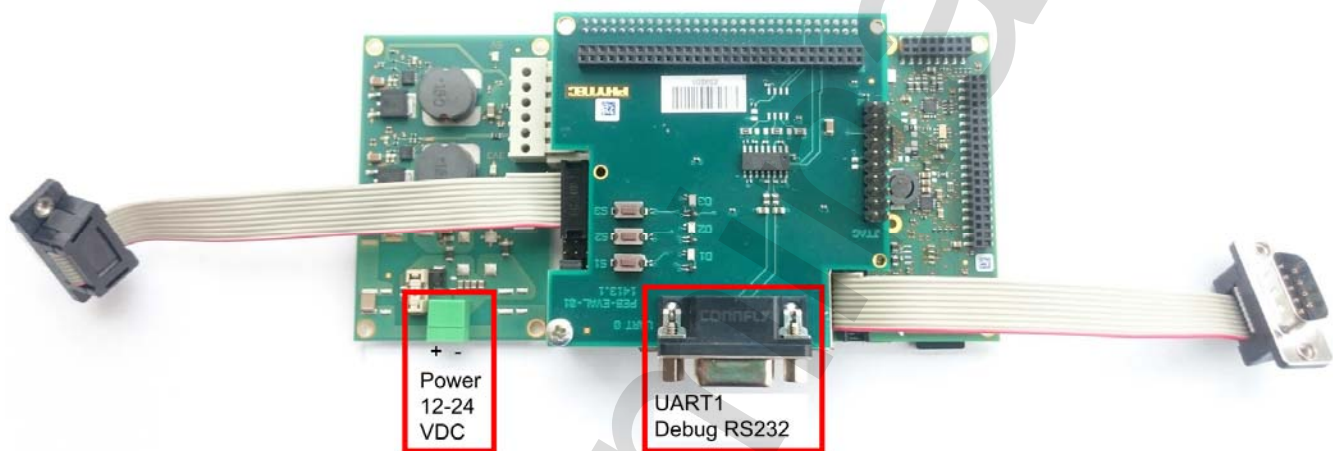

Figure 1: phyBOARD-Segin Alpha Kit
- Connect the power supply to the Power Adapter Board (please note the polarity shown in Figure 1).